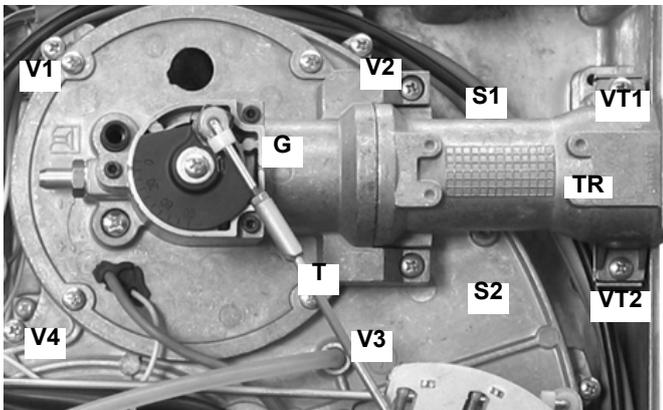

Fig. 17
- 1 Remove the plastic hook **G** to release the rod **T** (Fig. 17) .
- 2 Take the screws **V1**, **V2**, **V3**, **V4**, **VT1** and **VT2** off (Fig. 17).